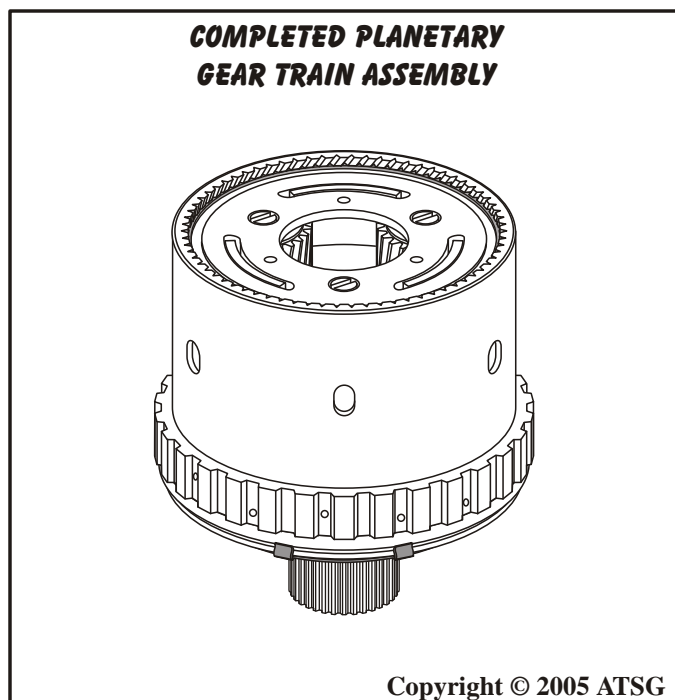

Figure 102
18. Set completed planetary gear train assembly aside for the final assembly process, as shown in Figure 102.